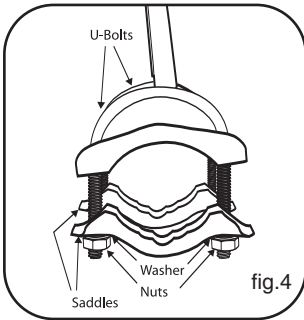

fig.4
1. Insert U-Bolts into the holes of the wall/mast bracket (fig. 4).
2. Slide the mast clamps onto the U-Bolts (fig. 4).
3. Attach the 4 nuts with lock washers to the U-Bolts - do not tighten fully (fig. 4).